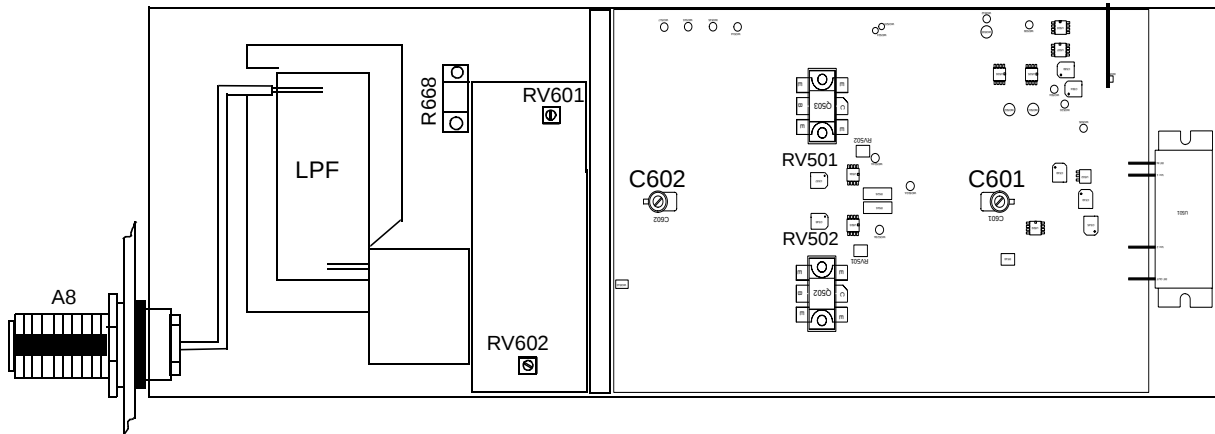
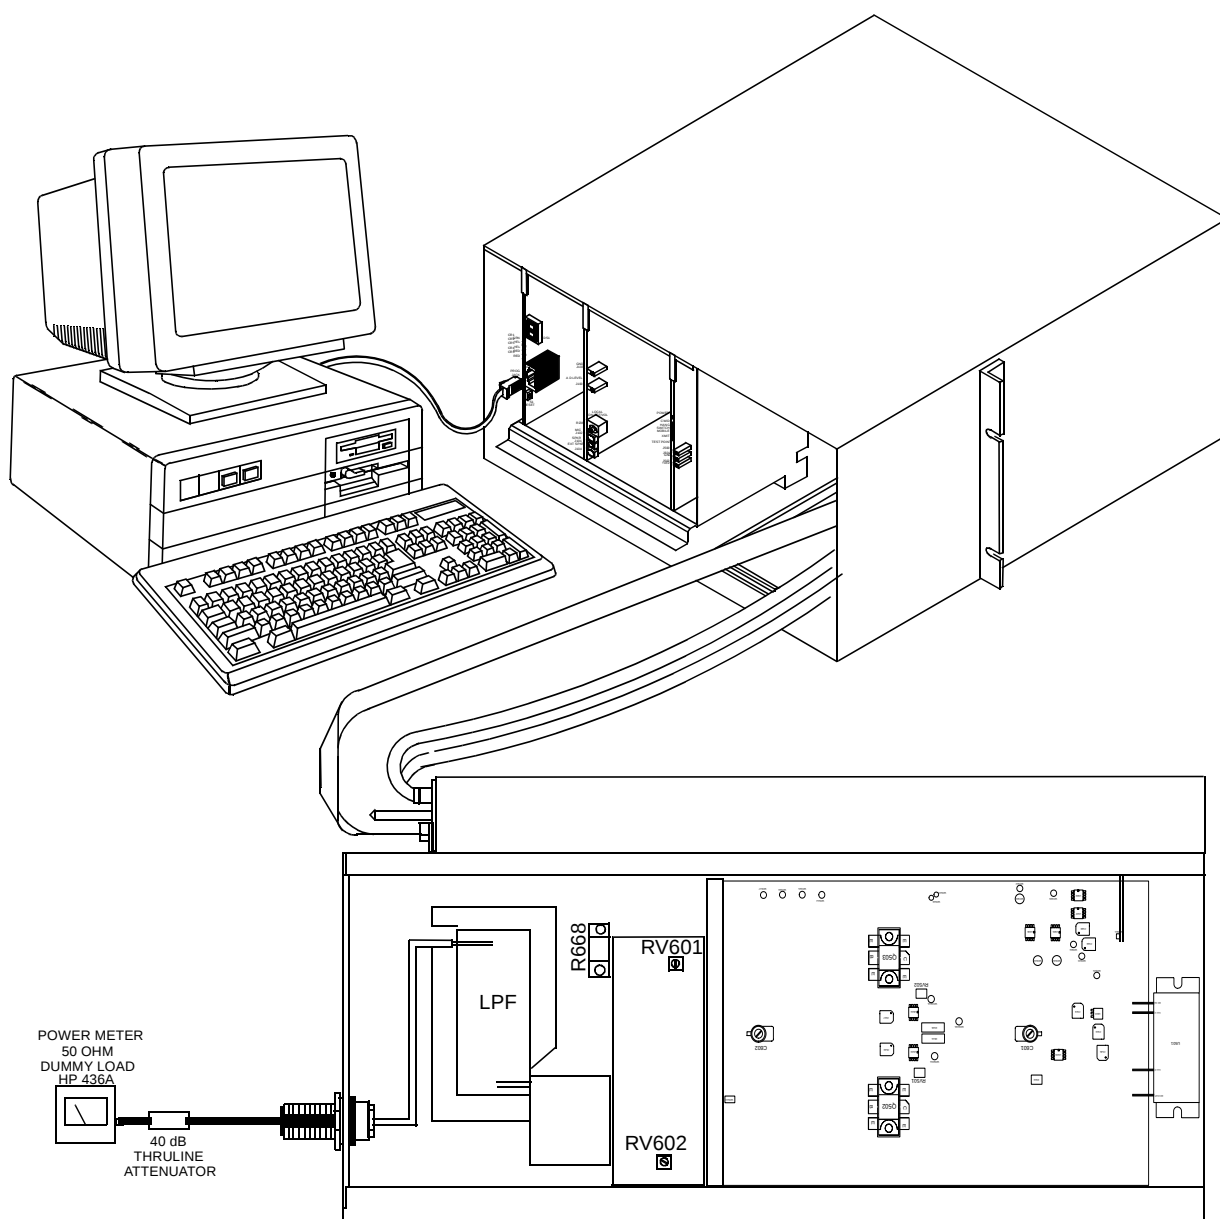

Figure 4 125W POWER AMPLIFIER ALIGNMENT POINTS
Figure 7 125W POWER AMPLIFIER TEST SETUP
Refer to Figures 4 and 5 for component locations. Refer to Figure 7 for equipment needed and setup diagram. Select "PA" from the "TEST" menu in the Repeater Software.
Set RV502 on the PA fully clockwise, see Figure 4.
2. Set Forward Power Adjust R611 and Reflected Power Adjust R661 on the power detector board fully counterclockwise (see Figure 4).
7. Monitor the output power and tune C601 and C602 for maximum output power, see Figure 4.